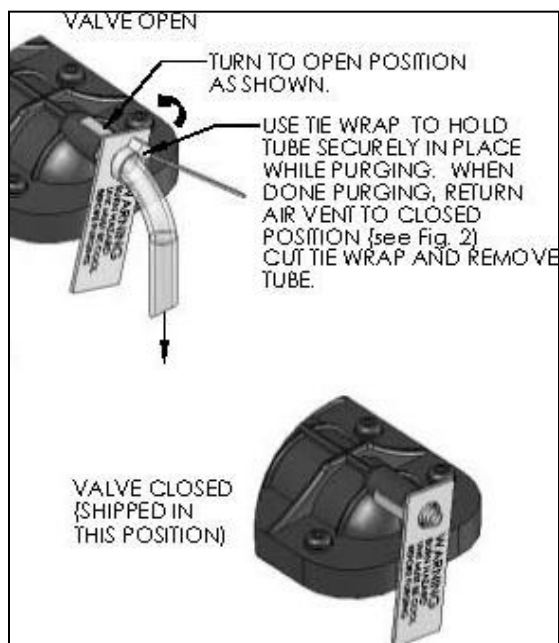

Figure 32
1. Take the 5/16" flexible clear tube (rated for maximum temperature of 120°F) provided with the heater and place it over the barbed nipple on the manual air vent as shown in Fig. 32.
3. Turn the manual air vent to the open position as shown in Fig. 32. Air and water should drain freely from the system.
9. While the pump is running as described above, open the manual air vent on the front of the heat exchanger as shown in Fig. 32 to further assist in removing air from the system.
10. When all air is removed and water runs freely from the end of the hose, return air vent to the closed position shown in Fig. 32. Cut the tie wrap and remove the tube. Please make sure warning tag is left in place. Stop the pump from running by pressing **[S1]** and **[S2]** together.
- f. One zone at a time, open the isolation valves. Allow water to run through the zone, pushing out the air. Run until no noticeable air flow is present. Close the zone isolation valves and proceed with the next zone. Follow this procedure until all zones are purged. After all the zones are purged, open the manual air vent on the top of the heat exchanger as illustrated in Figure 32. Purge out all air that may have accumulated in the header to avoid air entrapment in the system.